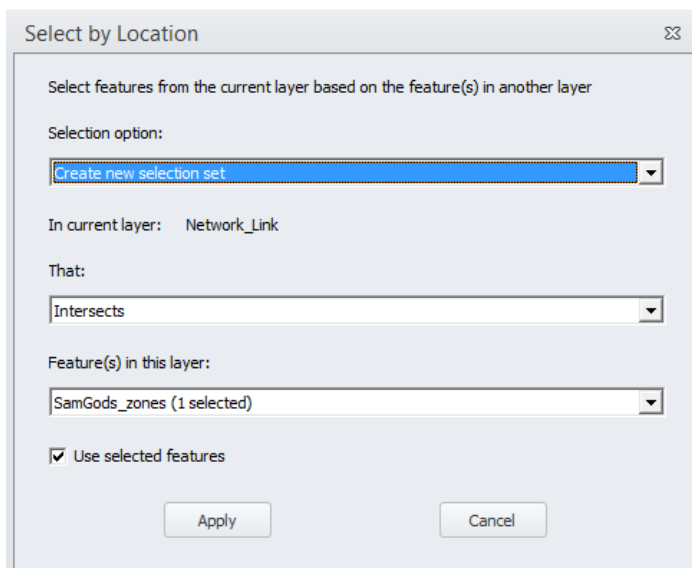

Figure 61 The Select by Location tool
- 4) In the Select by Location window, set the values indicated in Figure 61